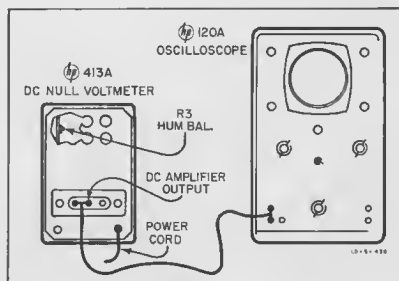

Figure 5-6. Hum Balance Test Setup
c. Connect oscilloscope to the dc amplifier output connector as shown in figure 5-6.